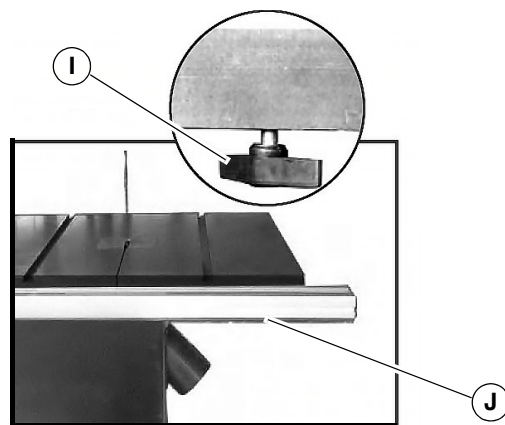

Fig. 13: Install the parallel stop guide
Step 10: To fix the guide of the rip fence, mount 4 wing screws (pos. I, fig. 13) with washers to the underside of the worktable. Mount the wing screws with only a few turns so that there is sufficient clearance for mounting the parallel stop. distance for the assembly of the parallel stop rail (pos. J, fig. 13).